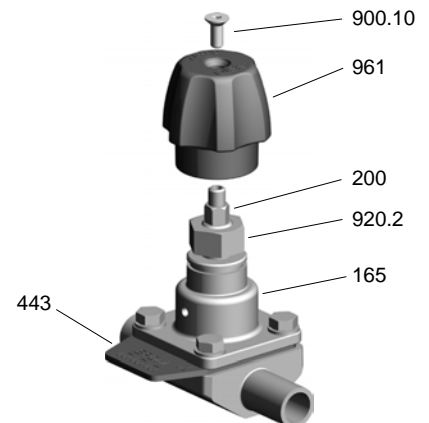

Figure 4: SISTO-C HV.510/.520, setting the travel stop in closing direction
5. Screw in the screw [900.10] to secure the handwheel [961] on the stem [200] (see Fig. 4).